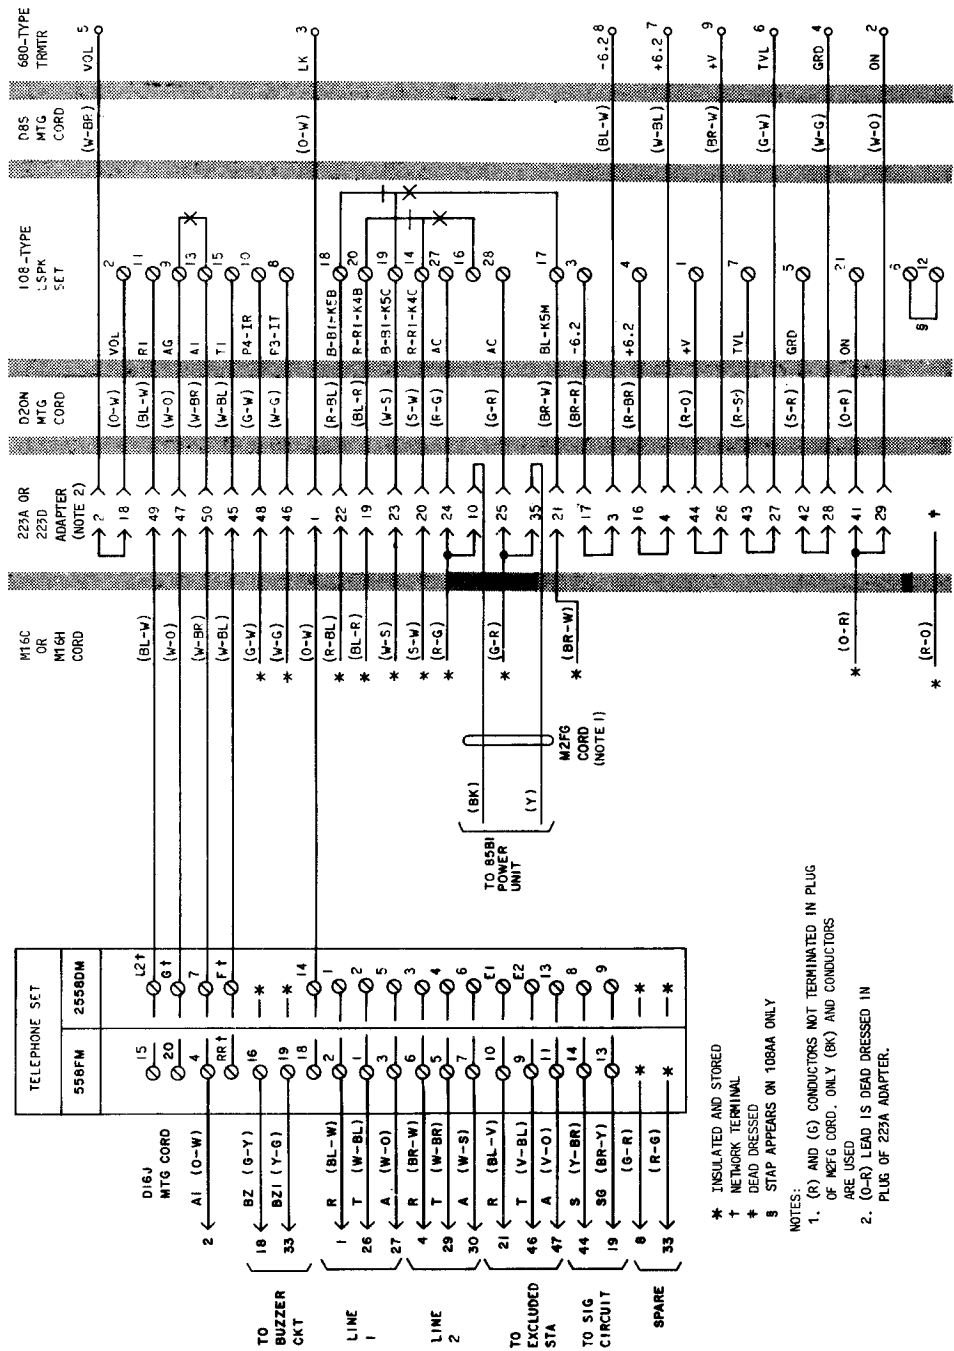

Fig. 5—Typical Grandfathered 4A Speakerphone System Arrangement, Connections to 558FM and 2558DM Telephone Sets†
2.04 Cords from the loudspeaker set, transmitter, and power unit are plugged into the adapter (Fig. 1B). Cover must be fastened securely to assure proper mating of connectors. The telephone set mounting cord is plugged into the 66E3-25 connecting block (Fig. 1B). Access to speakerphone leads is obtained through the M16C (MD) or M16H cord, either in set (Fig. 4) or at the connecting block (Fig. 5). At the 66E3-25 connecting block, 161A adapters must be used to connect the spade tips of the M16C or M16H cord. Install the adapters as outlined in Section 461-604-100.